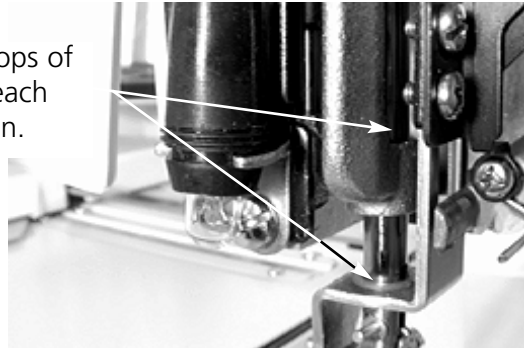

Figure 6-10
10. Place 1-2 drops of oil at both locations where the shaft passes through a bushing, as shown in Figure 6-10, once each month. Close the face cover when done.